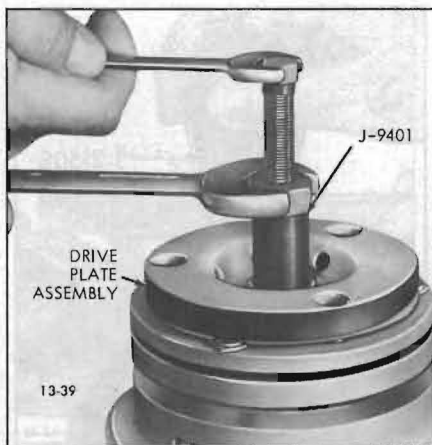

Figure 13-39—Removing Clutch Drive Plate
3. Install threaded hub puller (J-9401) onto hub of clutch drive plate (see Figure 13-39). Hold body of hub puller with wrench, tighten center screw of hub puller, and lift off clutch drive plate and woodruff key.